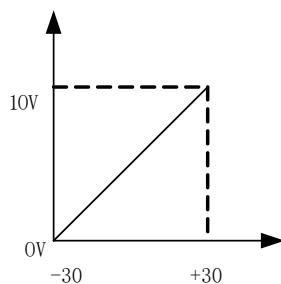

Figure 4-18 Corresponding relationship between synergic voltage deviation values
2. The corresponding relationship between synergic given voltage deviation values is shown in Figure 4-18;